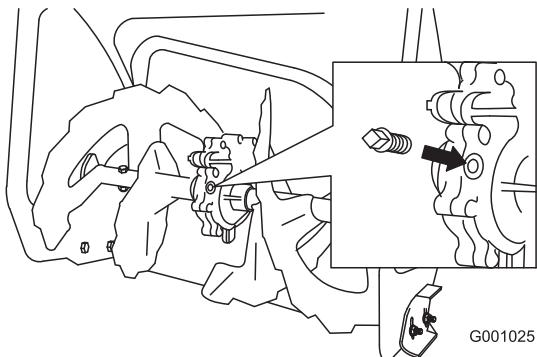

Figure 40
- Clean the area around the pipe plug (Figure 40).